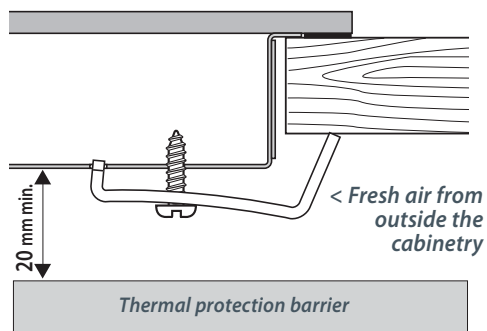

Fig. 1a Minimum clearance below cooktop base - CE302 models
- if the cooktop is installed directly above an oven or its base is accessible through a cupboard or drawer space after installation, a thermal protection barrier is installed below the base of the cooktop (see Figs.1a and 1b).